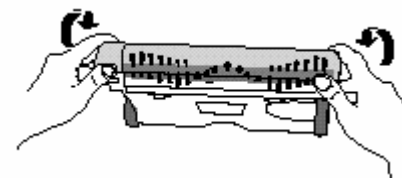

Fig. 8
4. Periodically remove the transparent brush cover on the front of the cordless sweeper and remove any build up of lint, hair or fiber on the rotating brush. To remove the cover - grip the cover from the bottom, pull out and upward until the cover unlocks from the side slots and tabs located on the top of the sweeper. (Fig. 8)